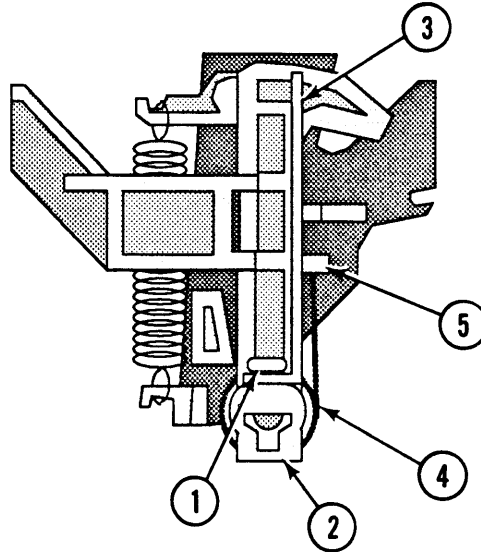

FIGURE 58
2. Remove the Phillips screw (Figure 58, #1) that secures the right hook (Figure 58, #2) and bracket (Figure 58, #3) to the hook shaft.
3. Slide the hook and torsion spring (Figure 58, #4) from the shaft to remove them.
1. Slide the hook onto the shaft and place the torsion spring behind the tab (Figure 58, #5) at the left side of the hook.